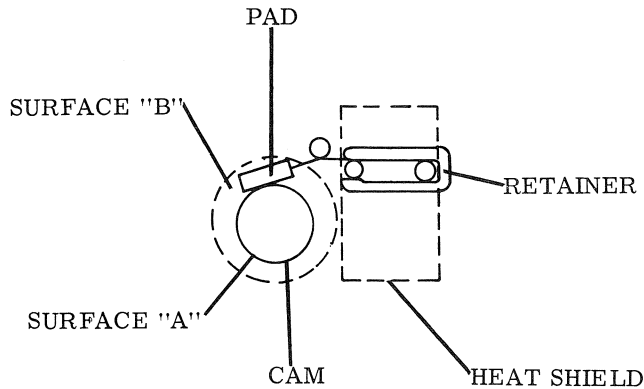

Figure 3-31. LUBRICATOR PAD ASSEMBLY
20. Lubricator Pad Assembly (Figure 3-31)